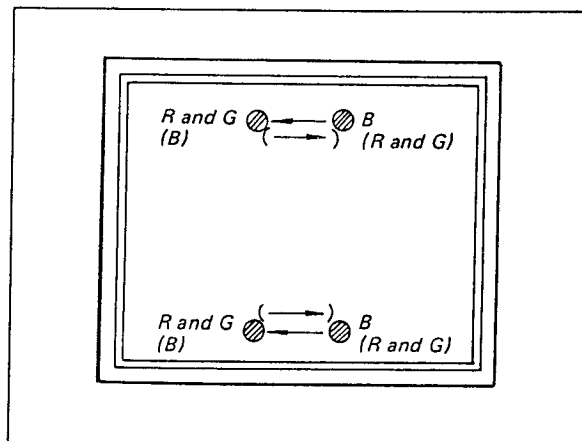
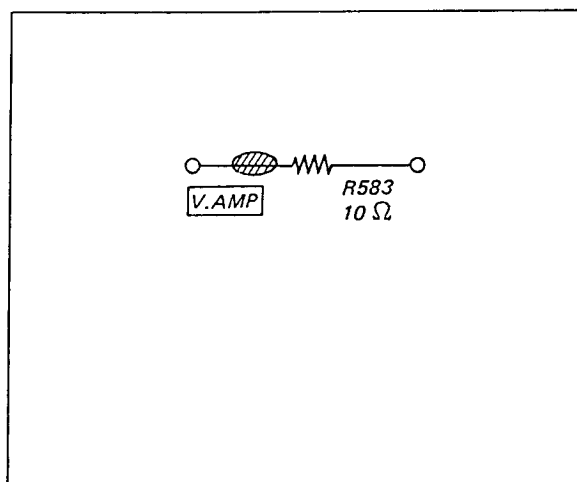

Fig. 3-11. Top and bottom convergence adjustment
Fig. 3-12. Adjustment portion on the VH board
1. To correct misconvergence of the type shown in Fig. 3-11, try and connect the bridge on the printed pattern on VH board (V. Amp), or disconnect it. This means short-circuiting R583 10 ohms or not. See Fig. 3-12. Make the situation giving best results permanent (0 ohm or 10 ohms).